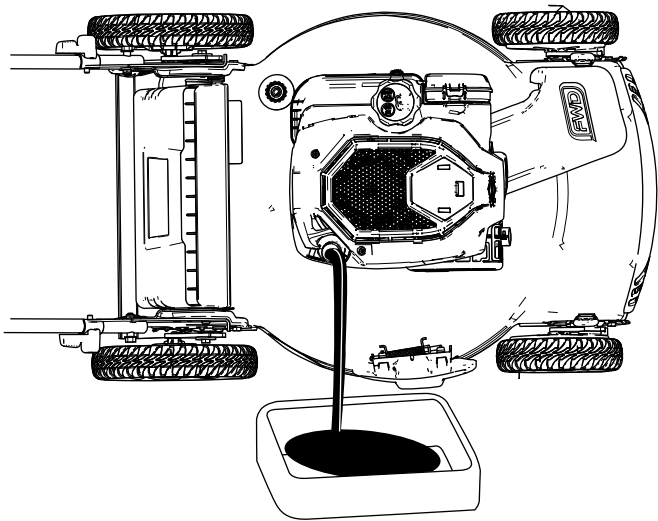
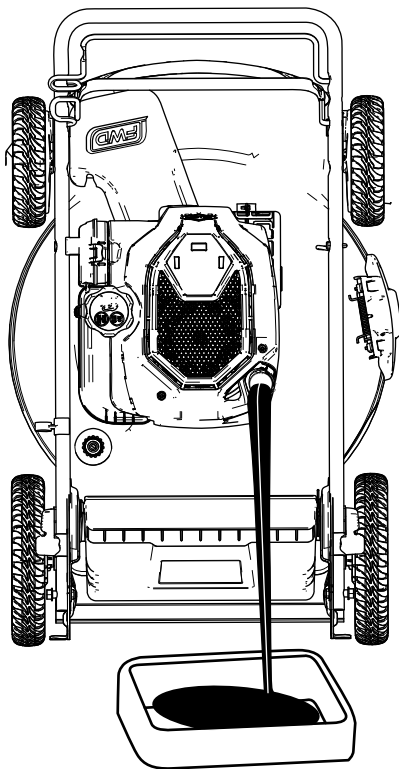

Figure 27
Figure 28
4. Tip the machine onto its side (so that the air filter is up) to drain the used oil from the oil-fill tube (Figure 27) or set the machine in the vertical-stow position (Figure 28). Refer to Storing the Machine in the Vertical-Stow Position (page 11) to drain the used oil from the oil-fill tube.